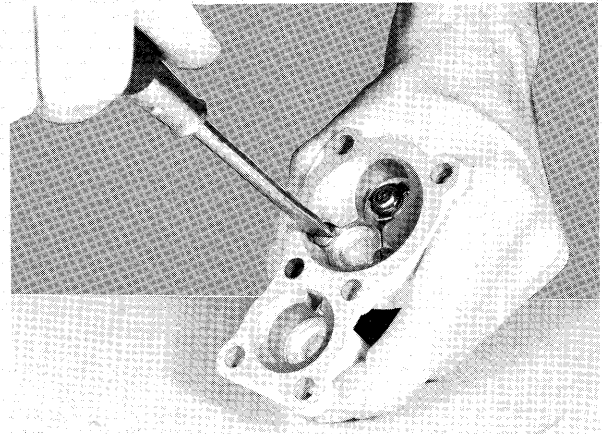

Figure 4—Removing Central Fuel Pump Valve
- B. Remove two (2) screws securing central valve to fuel pump body as shown in Figure 4. Remove fuel pump valve and gasket from body.